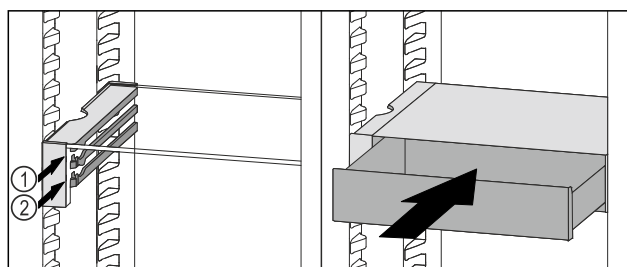

Fig. 90
- Place the VarioSafe drawer behind the stoppers on desired rib *Fig. 90 (1)* or *Fig. 90 (2)*.